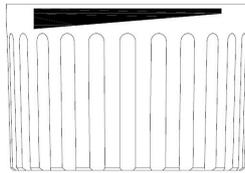

Fig.4
- 2.2.4 Rotate rheostat CW to increase intensive while CCW is decrease shown as bar's way refer to Fig.4.